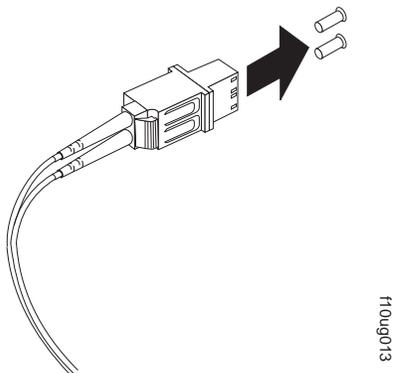

Figure 33. Removing the LC-SC cable adapter protective caps
3. Remove the two protective caps from the LC connector end of the LC-SC cable adapter as shown in Figure 33. Save the protective caps for future use.